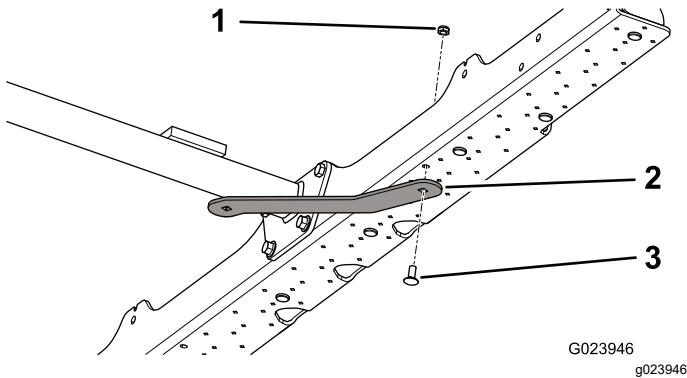

Figure 5
1. Align the longer flat end of a support brace to the underside of the bottom plate so that the shorter flat end reaches the drawbar (Figure 5).
2. Secure the support brace to the bottom plate with a bolt (5/16 x 3/4 inch) and a locknut (5/16 inch); refer to Figure 5.